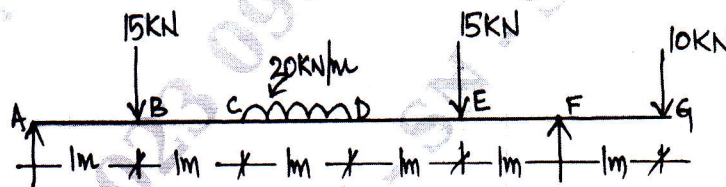

Fig Q8
- 8 Draw SFD and BMD for beam shown in Fig Q8 and mark the salient points. Find the point of contraflexure and maximum bending moment.